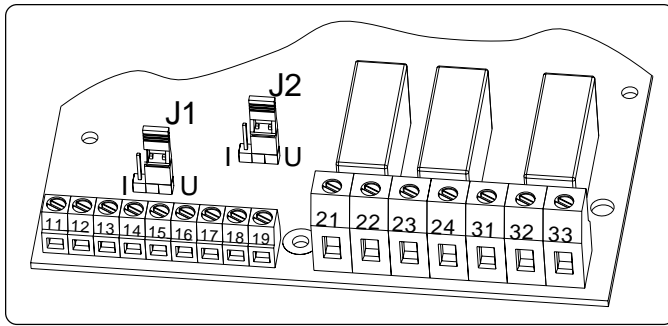

Fig. 23 Selecting voltage input.
1. Set Jumper J1 on the PCB board to the voltage (U) position, see Fig. 23 on page 49.